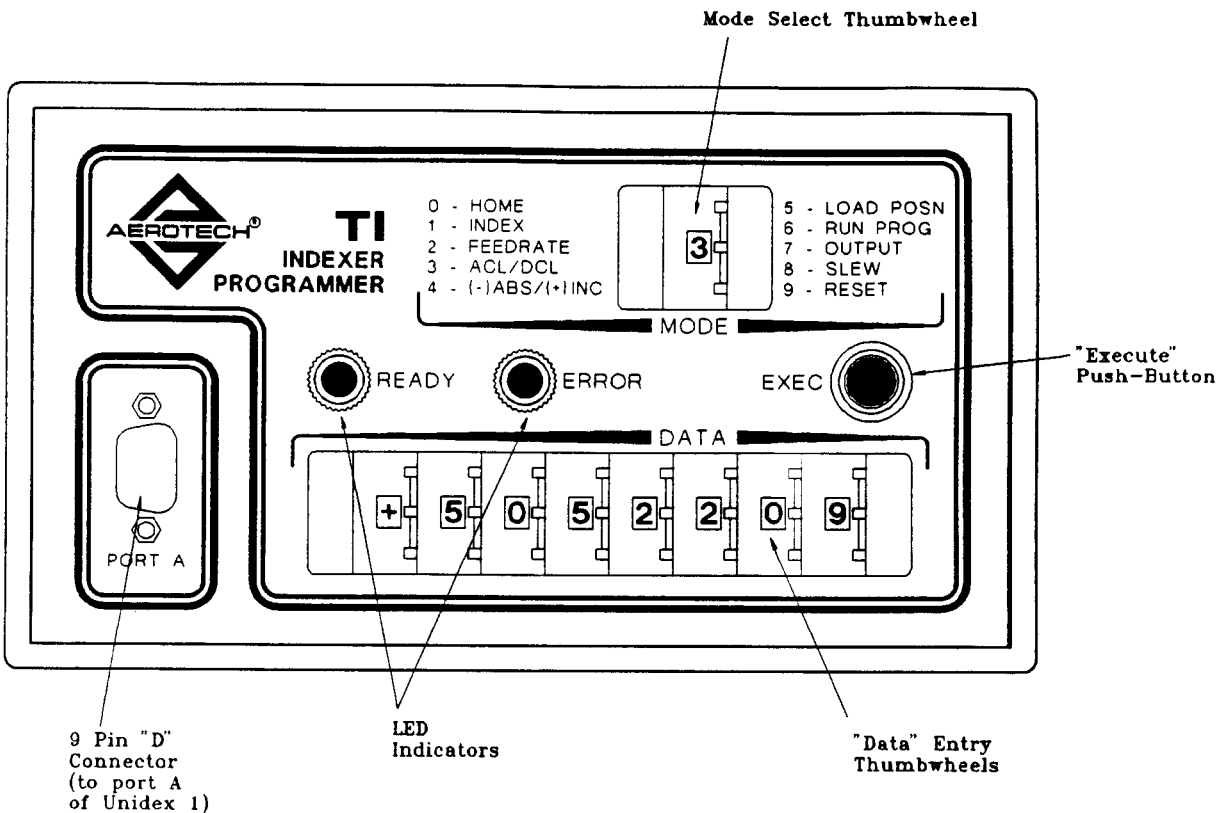

Figure 4-3: Thumbwheel Indexer (TI) Option
The thumbwheel indexer (TI) shown in figure 4-3, is supplied with a molded interconnect cable that is designed to plug directly into the communications interface connector port A of the Unidex 1 (see section 8-10). No additional interconnect wiring is required by the user. The thumbwheel (TP) derives its power directly from the Unidex 1.